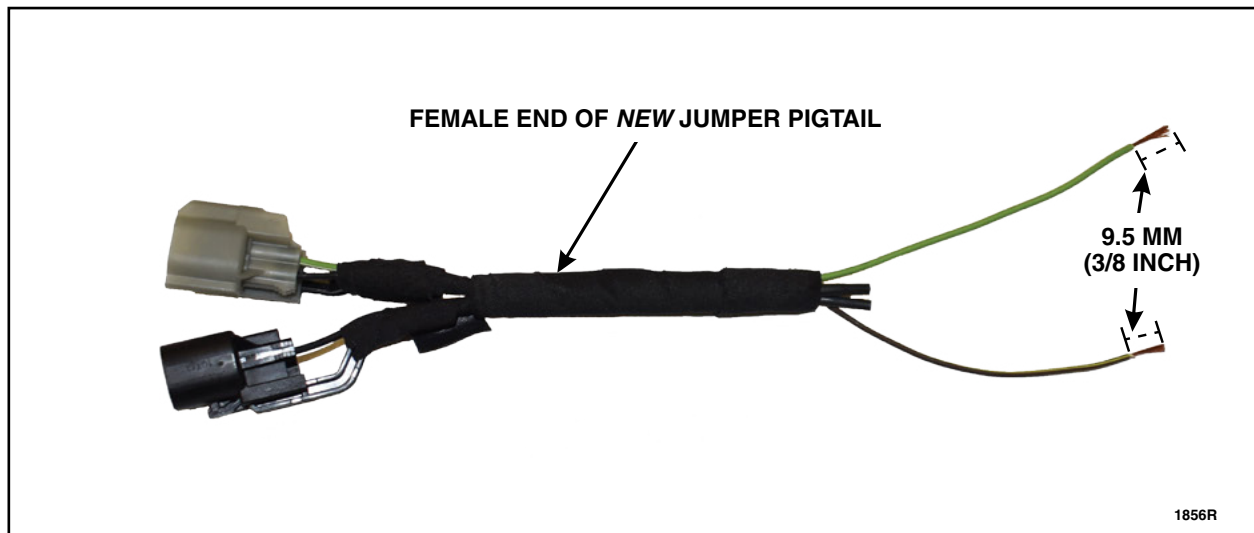

FIGURE 20
23. Strip 9.5 mm (3/8 in) of the wire insulation on the *new* jumper pigtail female connector end. See Figure 20.